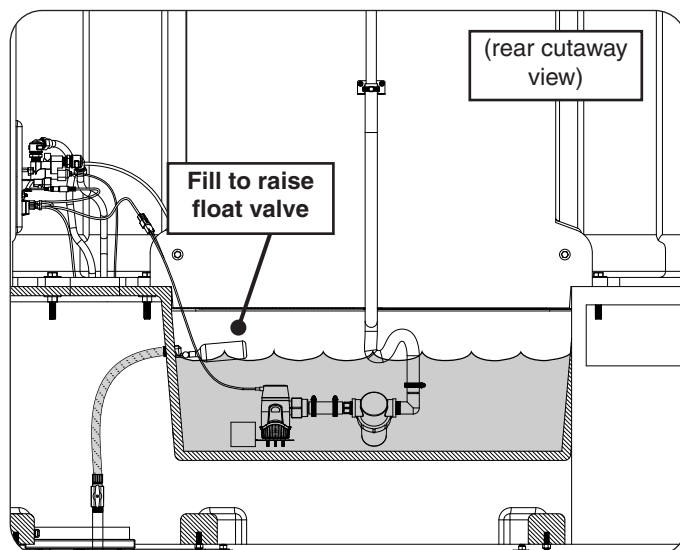

Fig. 31-3 Fill reservoir with water
1. Fill the reservoir with water (or turn on the water supply) until the float valve rises as shown in Fig. 31-3.